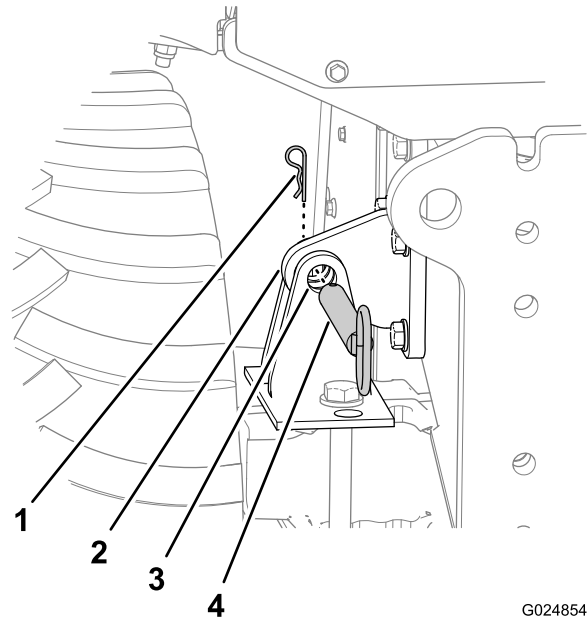

Figure 49
1. Remove the hairpin that secures the tilt-lockout pin to the chassis-lockout bracket (Figure 49).
2. Remove the tilt-lockout pin from the holes in the chassis-lockout bracket and the axle-lockout bracket (Figure 49).
1. Use the tilt switch to align the hole in the chassis-lockout bracket with the holes in the axle-lockout bracket (Figure 49).
4. Fully insert the tilt-lockout pin through the horizontal holes in the chassis-lockout bracket and axle-lockout bracket (Figure 49).
5. Secure the tilt-lockout pin to the axle-lockout bracket with the hairpin (Figure 49).